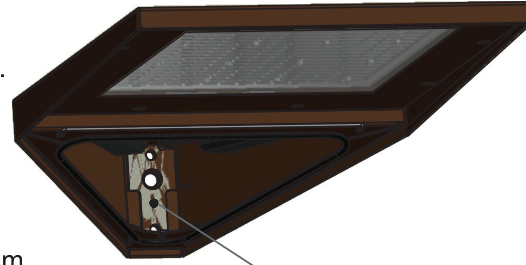

FIGURE 6
ASSEMBLY OF LUMINAIRE TO POLE - Figure 6
2. Position luminaire over studs. Take care to not pinch luminaire wires. See Figure 6.